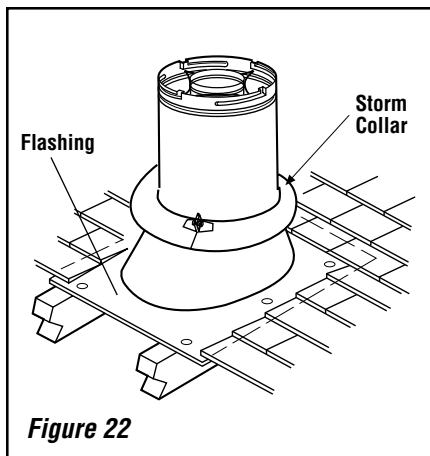

Figure 22
I. Install the roof flashing - Extend the vent sections through the roof structure. Install the roof flashing over the vent section and position such that the vent column rises vertically (use carpenter's level) (**Figure 22**). Nail along perimeter to secure flashing or adjust roofing to overlap the flashing edges at top and sides only and trim where necessary. Seal the top and both sides of the flashing with waterproof caulking.
J. Install the storm collar - Install the storm collar, supplied with the flashing, over the vent/flashing joint. See **Figure 22**. Loosen the storm collar screw. Slide collar down until it meets the top of the flashing. Tighten the adjusting screw. Apply non-combustible caulking or mastic around the circumference of the joint to provide a water tight seal.